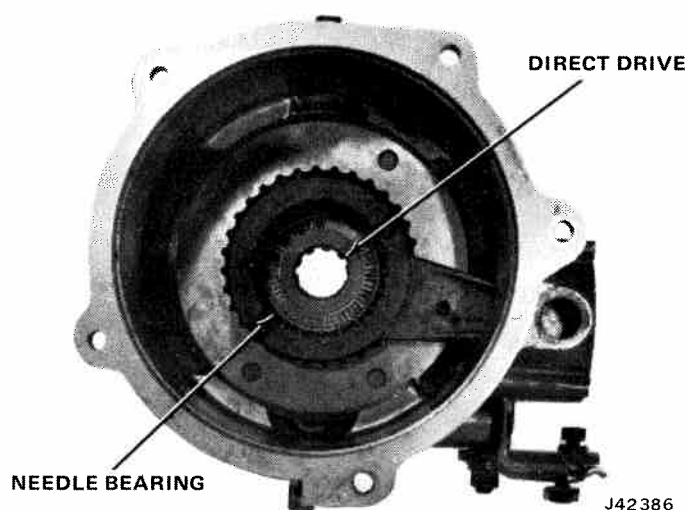

Fig. 8-35 Direct Drive Sleeve and Needle Bearing Installed
(22) Install direct drive sleeve into reduction shift collar.
(23) Needle bearing surface and pointed ends of outer teeth should be forward.
(24) Lubricate and install needle bearing against direct drive sleeve (fig. 8-35).